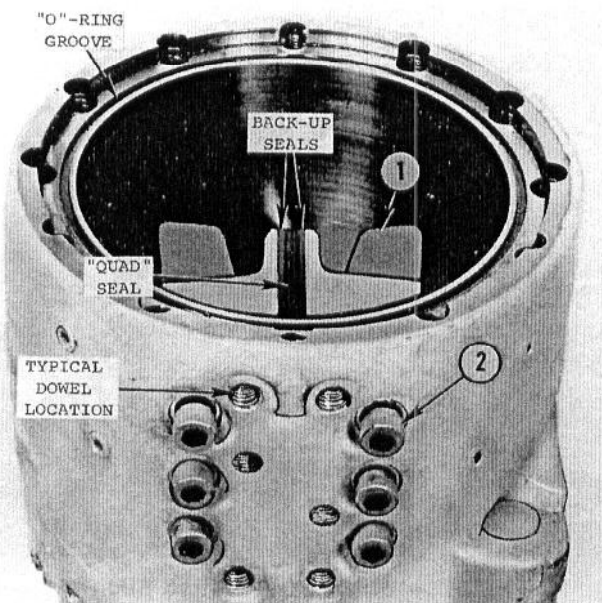

Fig. 38 — Location of Barrel Vane Dowel Pins
13. To remove barrel (stationary) vane, proceed as follows ... see Fig. 38.